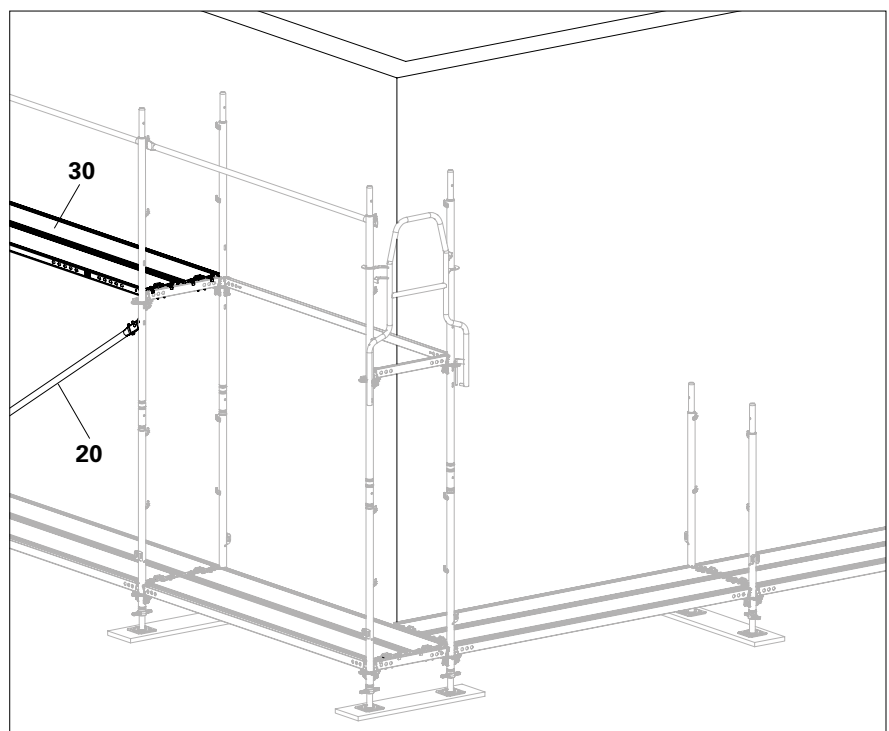

Fig. B6.03
10. Position the decks (30) excluding the corner bay.
11. Install Face Braces EBF (20). (Fig. B6.03)